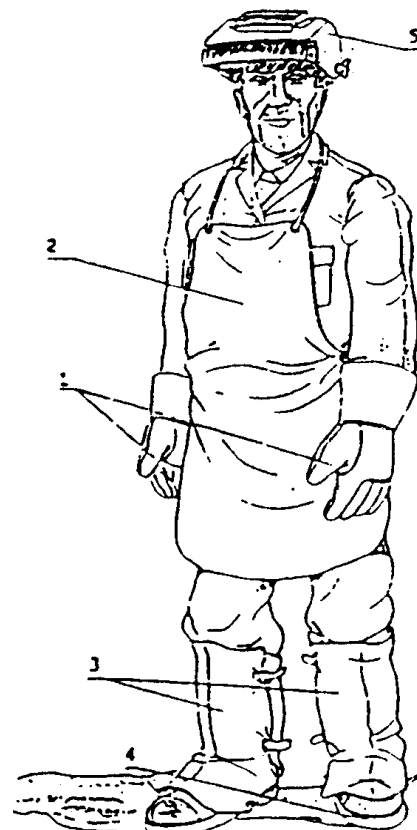

FIG.1
-Operators should protect their body by wearing non flammable, close fitting protective clothing, without pockets or turned-up trousers. Oil or grease should be carefully removed from all articles, before wearing. Operators should also wear closed safety boots with steel toe caps and with rubber soles ( Fig. 1).